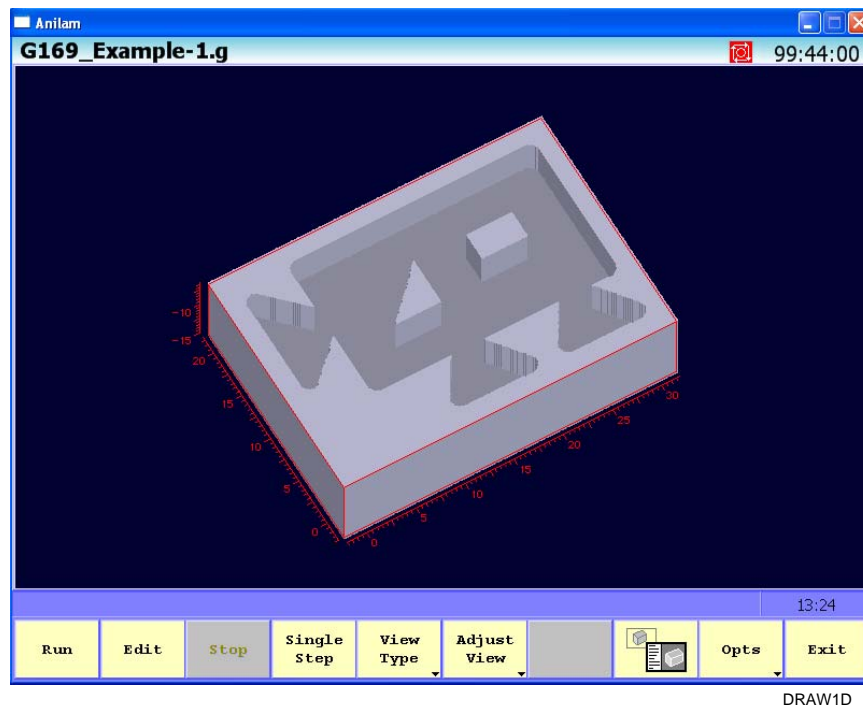

Figure 8-1, Draw Screen
2. Press **Run (F1)**. Refer to **Figure 8-1**. Refer to **Table 8-1, Draw (F7) Screen Soft Keys** for a description of the Draw screen soft keys.